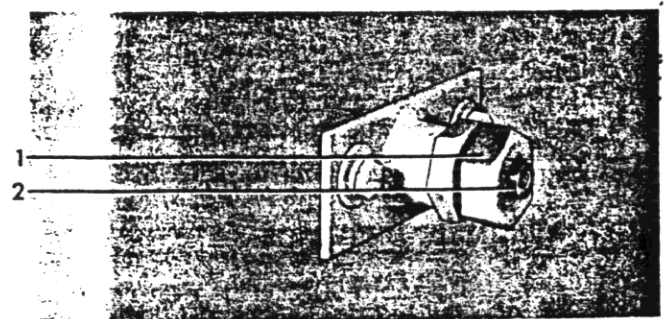

Figure 11. (8041552) Contact Erosion Indicator
Refer to Figure 11. With the breaker closed, press the manual trip button allowing the breaker to open normally. The gap between the primary contacts should be $5/8" \pm 0-1/32"$. Shaft (2) moves with the contact rod of the interrupter and can be used to measure the contact gap. Nut (1) is set at the factory so that shaft (2) projects $1/8"$ beyond the nut when the interrupter is closed. If the interrupter is in the open position the rod should project $3/4" \pm 0-1/32"$. To change the contact gap the operating rod adjustment screw (6) Figure 12 is used. Loosen nuts (5) and (7) and turn the hex center of the double ended adjustment screw to increase or decrease the gap. One full turn will close or open the contact gap approximately $1/8"$. Tighten the locking nuts and remeasure the gap after closing and tripping the breaker.
1. A maximum contact erosion of 1/8" is allowed. This is easily determined by checking the indicator (2) Figure 11 when the breaker is in the closed position. When the shaft is flush with nut (1) the contacts have been eroded 1/8" and the Power Vac interrupter should be replaced.
8. Readjust the erosion indicator nut (1) Figure 11 so that 1/8" of shaft (2) protrudes when the breaker is in the closed position.